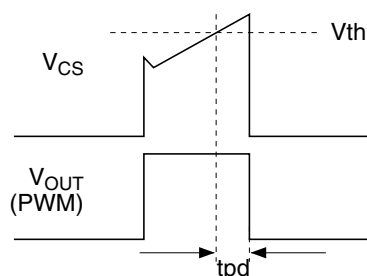

Figure 1 Definition of Current Sensing Response Time tpd
3. Current sensing response time tpd is defined as shown in the figure 1.